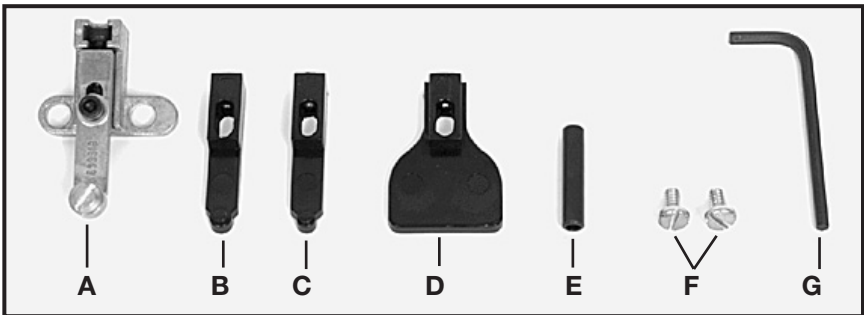
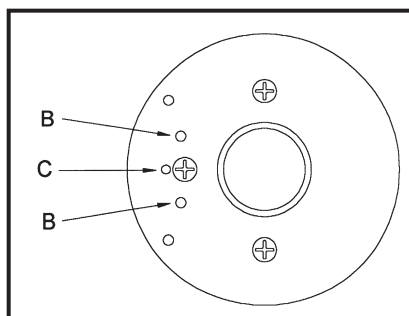

Fig. 2
Fig. 3
The Model 73100 Edge Guide Kit is available (as an accessory), for use with the Model 310 trimmer. The 73100 is designed for use with non-piloted bits, on curved applications. Non-piloted bits can produce a 90° straight cut, a 10° bevel cut, or a 22° bevel cut. The kit contains the parts shown in Fig. 2. Install the 73100 guide as follows:
3. Position the base and roller guide assembly (A) Fig. 2, to the base unit. The alignment pin on the back of the guide base fits into hole (C) Fig. 3.
4. Place the two mounting screws (F) Fig. 2, through the guide base and thread into sub-base holes (B) Fig. 3. Tighten screws firmly.
3. Remove roller guide and replace with flush trimming guide (B) Fig. 2. This guide may be identified by the molded on letter "F". The stud on the end of this guide must face toward the trimmer base.
4. Install guide setting gauge (E) Fig. 2, into trimmer collet (see TO INSTALL BIT). Install trimmer motor to base. Adjust guide so that hole in end of gauge may be positioned over the guide stud.
1. Follow Steps 1 through 5 under FLUSH TRIMMING, except install bevel trimming guide (C) Fig. 2. This guide is identified by the letter "B" molded onto it.
The straight edge guide (D) Fig. 2, maybe used with either bit for trimming straight edges.